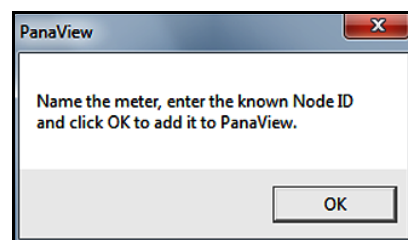

Figure 42: Confirmation Dialog Box
10. At the dialog box shown in Figure 42 below, click [OK] button to add the meter and configure it.